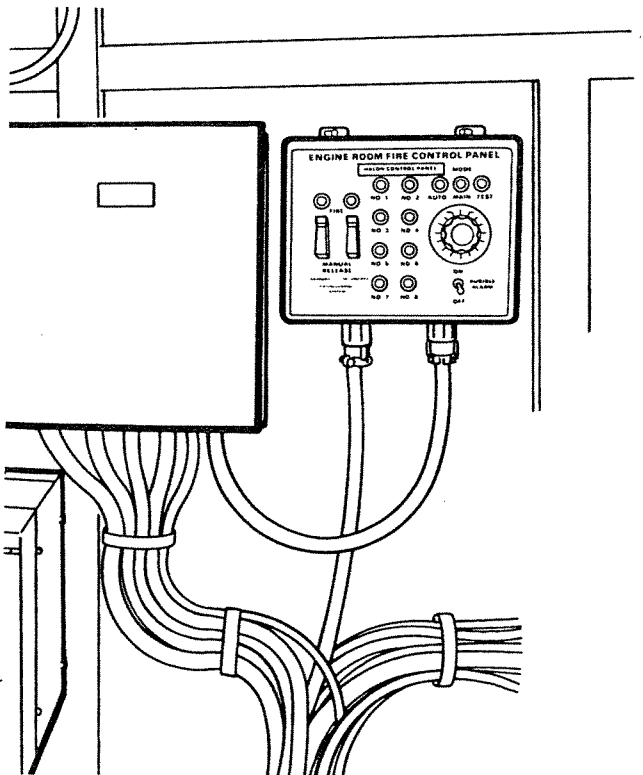

Figure 1-52. Halon Control Panel
1-6.19. FIXED HALON SYSTEM. The purpose of the fixed Halon system is to detect fire in the engine room and discharge Halon immediately to prevent fire from spreading. The fixed Halon system in the engine room utilizes optical sensors for detection. The sensors are located in strategic positions above the machinery in the engine room where flames or fire must be detected immediately. Four Halon cylinders are located between frames 19 and 20 starboard side and four more cylinders are located aft of frame 18, centerline. Eight 180 degree fan nozzles located fore and aft of each engine will release approximately 7 per cent of Halon, by volume, within two seconds. The Halon system is interlocked with the engine room exhaust fans so that upon release of Halon exhaust fans will de-energize. The Halon system control panel (Figure 1-52) is located in the pilothouse between frames 7 and 8 port side. Emergency break glass manual releases (Figure 1-53) are located starboard side of mess lounge door at frame 14. T-handles for full manual release of Halon are located at the top of inclined ladder in the pump room above the engine shutdown handles (Figure 1-54). Discharge of the Halon activates audible alarms at the control panel and in the engine room. A visual alarm is also provided at the control panel.
1. Halon control panel (Figure 1-52).